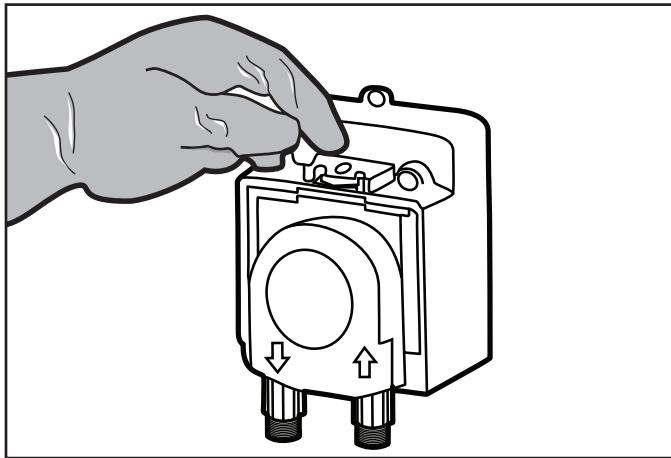

Figure 17. Unlock the Cover Latch
- Remove the Phillips locking screw on the latch. Slide the vertical tab 180 degrees from left to right to unlock the cover latch. See Figure 17.